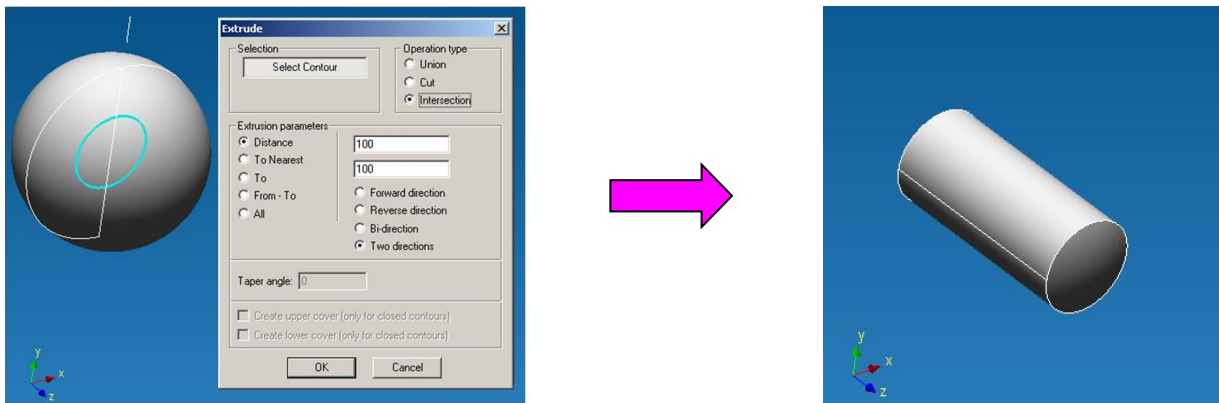

Fig. 2.7.71 Extrude with intersection operation
*Intersection* – the result of this operation is the earlier created solid body minus the rest, which is outside a newly created solid body (Fig. 2.7.71).